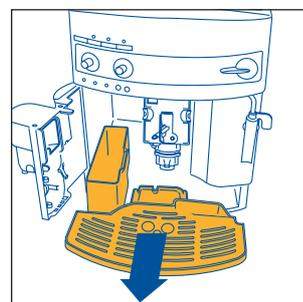

Fig. 16
**NOTE 7:** the machine counts the number of cups of coffee made. Each 14 single cups (or 7 double cups), the 📊 light switches on steady (chap. 12 point 3), warning the user that the grounds container is full and must be emptied and cleaned. Until the grounds container has been cleaned, the light will remain on and the machine cannot deliver coffee. To clean the container, open the service door on the front (pulling the handle, Fig. 15), the ⚠ light flashes (see para 12 point 9); remove the drip tray (Fig. 16), empty and clean. Empty and carefully clean the grounds container, making sure to remove all the residues that may be deposited on the bottom. Also dry the any drops of condensate that may have formed inside the machine under the drip tray. **IMPORTANT:** when removing the drip tray, the grounds container **MUST** be emptied, even if it is not completely full. If this is not done, when next making coffee the grounds container may fill over the maximum level and block the machine with lumps of coffee grounds.
- remove the drip tray and the grounds container (Fig. 16) and clean them;